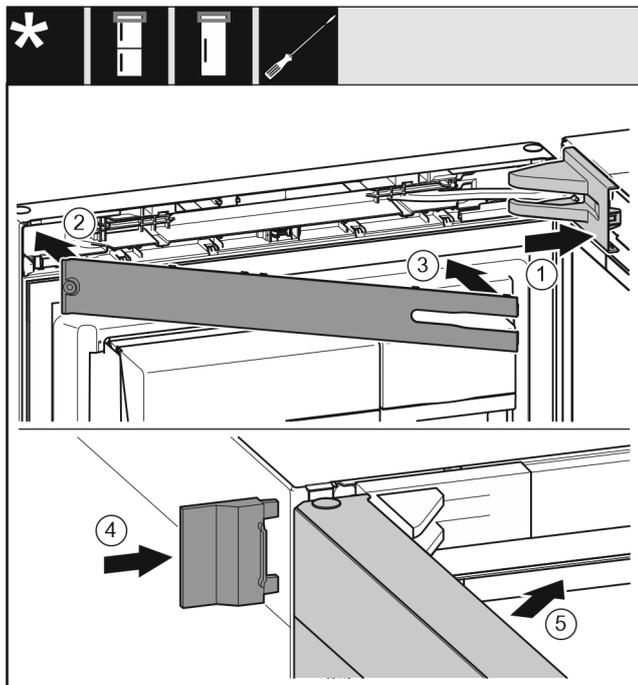

Fig. 62
- ▶ Put the swap bearing block cover Fig. 62 (1) on and engage, push apart carefully if required.
- ▶ Fit the trim Fig. 62 (2).
- ▶ Swivel in the cover Fig. 62 (3) and engage.
- ▶ Push the outer cover Fig. 62 (4) on.
- ▶ Close the upper door Fig. 62 (5).